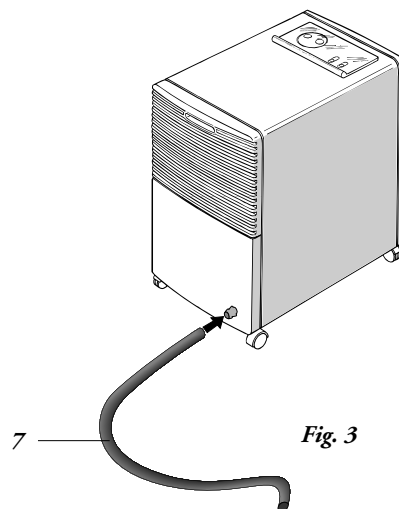

Fig. 3
- 4) *The housing door features a pre-marked hole for the condensation drain hose (fig. 3). Remove the centre disk and pass the hose through the hole.*